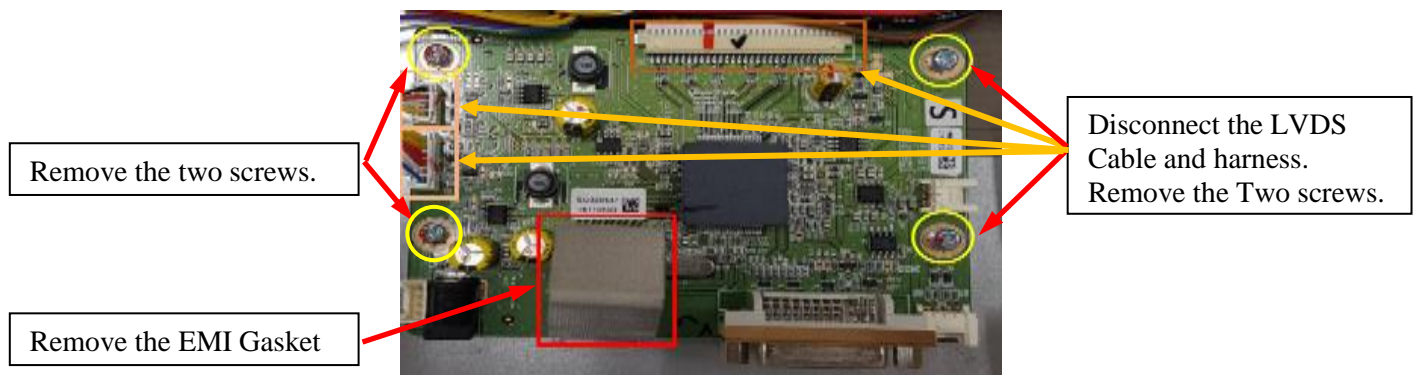

Figure 8. (69974805/KTL230DP-0x)
2) Locate the A/D board as shown in Figure 8, 9